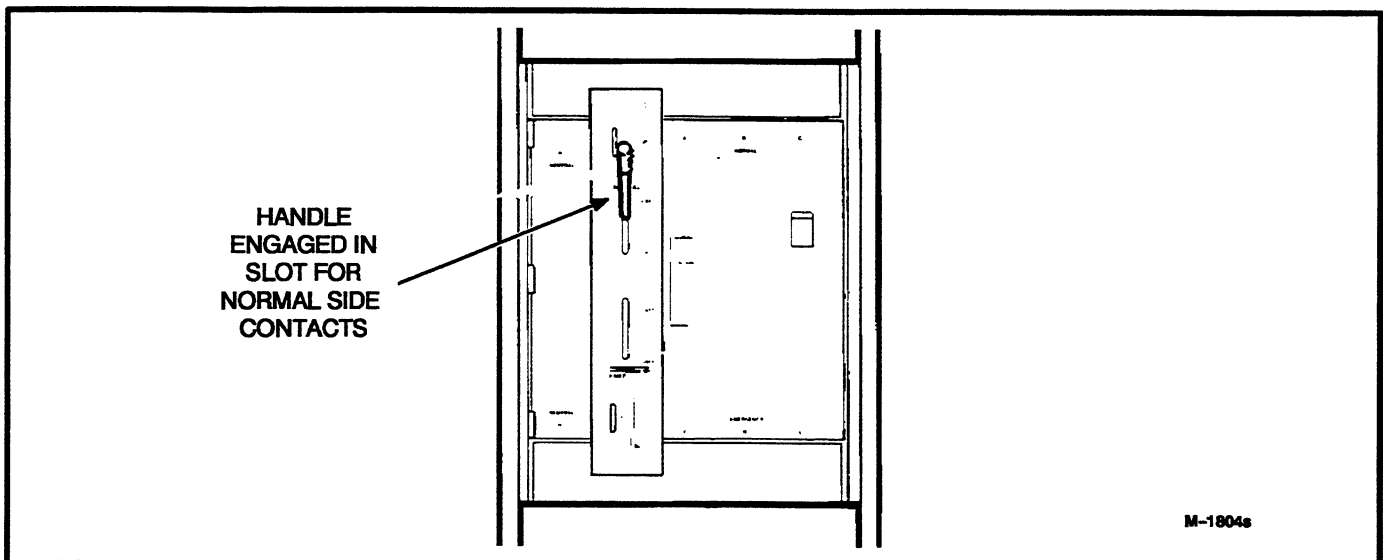

FIGURE 3-1. MANUAL OPERATION
3. A manual operating handle is provided with the transfer switch. The handle is a steel rod or tube, with a knob or hand grip on one end. To manually operate the switch, insert the handle in the operating mechanism as shown in Figure 3-1.